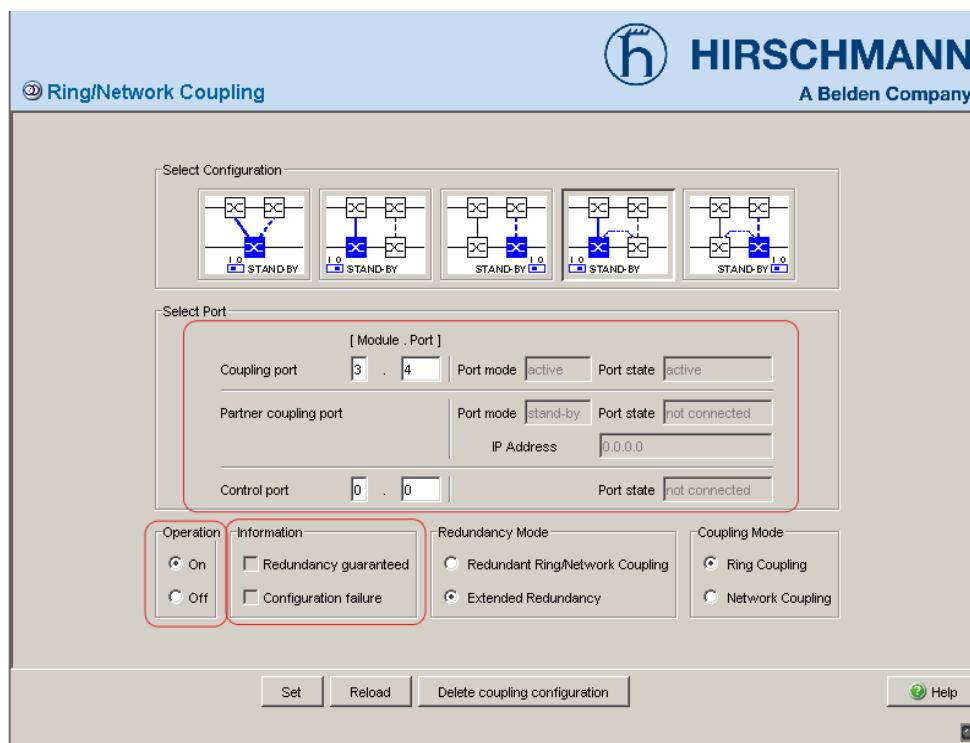

Figure 22: Selecting the port and enabling/disabling operation
- Select the coupling port (see fig. 22), (see table 10).
- Select the control port (see fig. 22), (see table 10).
The displays in the “Select port” frame mean (see fig. 22):
The displays in the “Information” frame mean (see fig. 22):